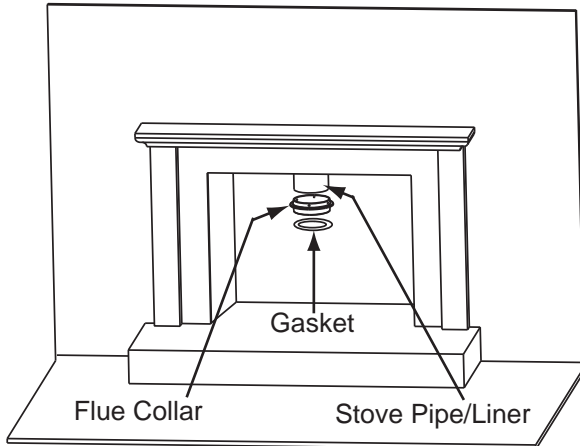

Figure 40.1
1. There are 4 pre-drilled holes in the flue collar 90 degrees apart. Attach the flue collar to the stove pipe/liner. If the seal is questionable use stove mastic **Figure 40.1**.